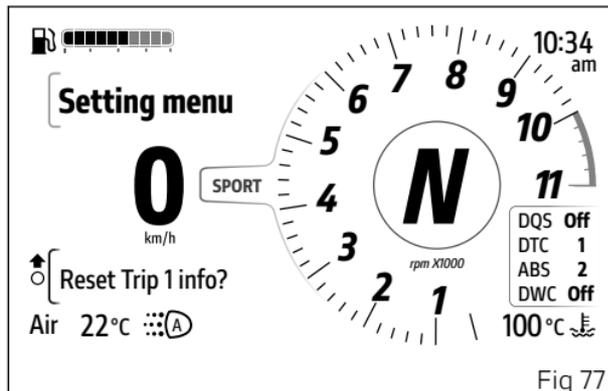

Fig 77
The trip information "Trip 1", "Ø cons.1", "Ø speed 1" and "Trip 1 time", when selected, can be reset by pressing the ENTER button (3): the message "Reset Trip 1 info?" is displayed (Fig 77).